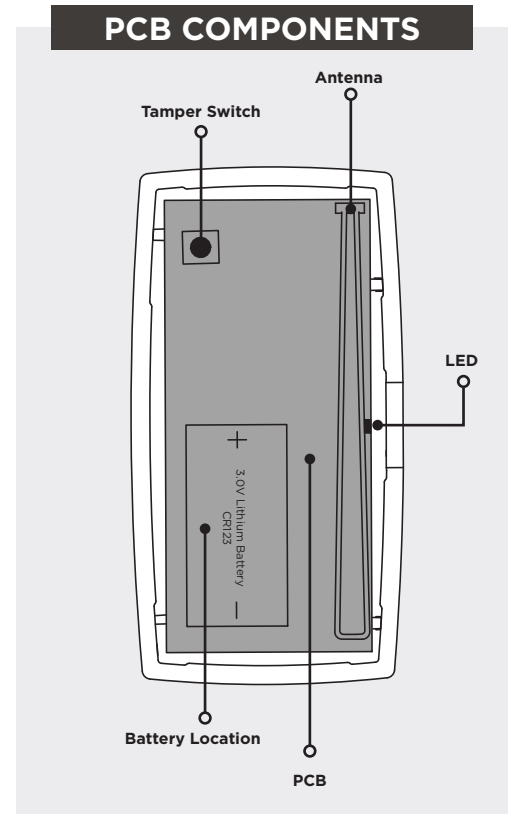

Figure 3: PCB Components
2. Press the tamper switch to send data to the panel and determine if communication is confirmed or faulty. See Figure 3 for tamper switch and LED locations.